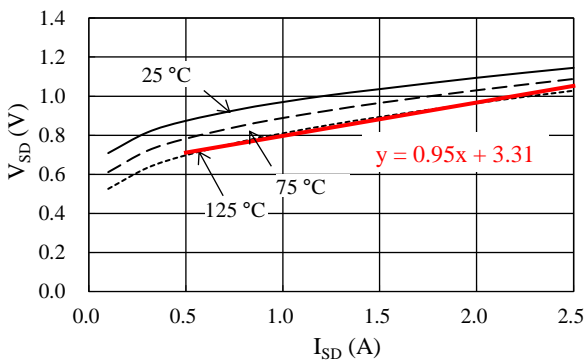

Figure 14-3. Linear Approximate Equation of V_{SD} vs. I_{SD}
Steady-state loss in the body diode of a power MOSFET can be computed by using the V_{SD} vs. I_{SD} curves, listed in Section 15.3.1. As expressed by the curves in Figure 14-3, a linear approximation at a range the I_{SD} is actually used is obtained by: V_{SD} = α × I_{SD} + β. The values gained by the above calculation are then applied as parameters in Equation (9), below. Hence, the equation to obtain the body diode steady-state loss, P_{SD}, is: